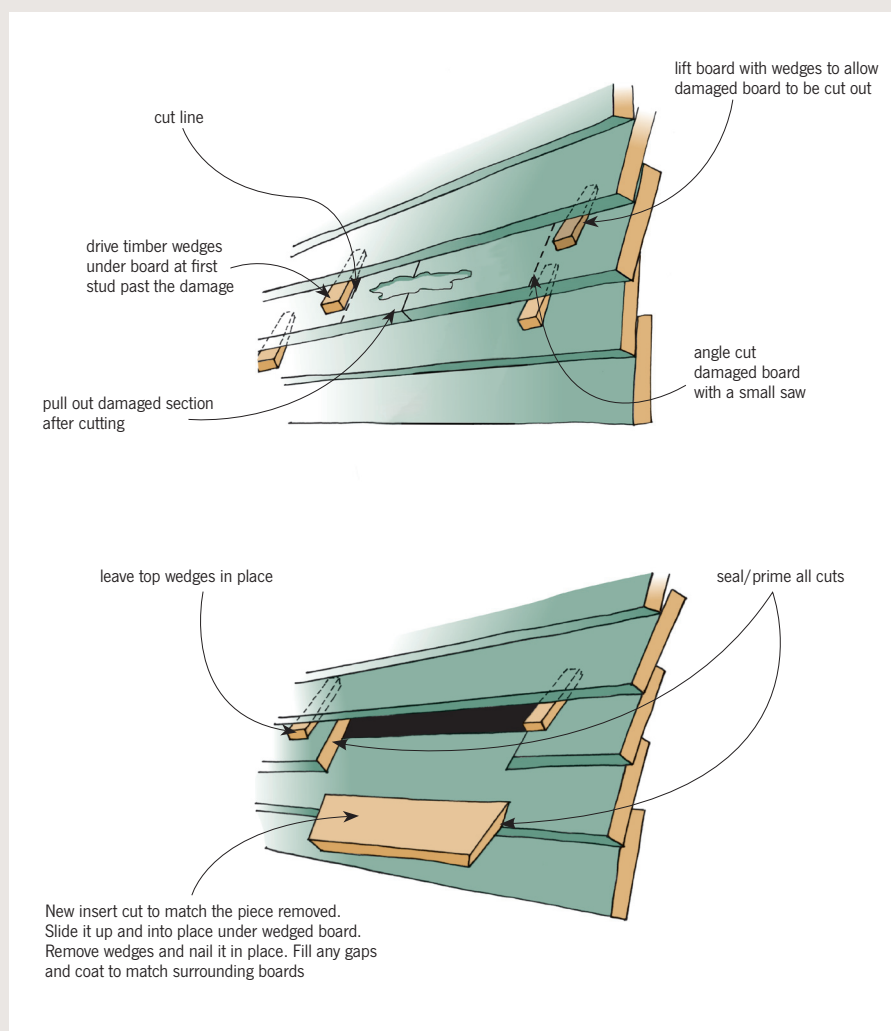

Figure 1: Repairing a damaged weatherboard.
- cut out the section to nearest studs (at least 600 mm in both directions from rot) and slant cut edges (see Figure 1)